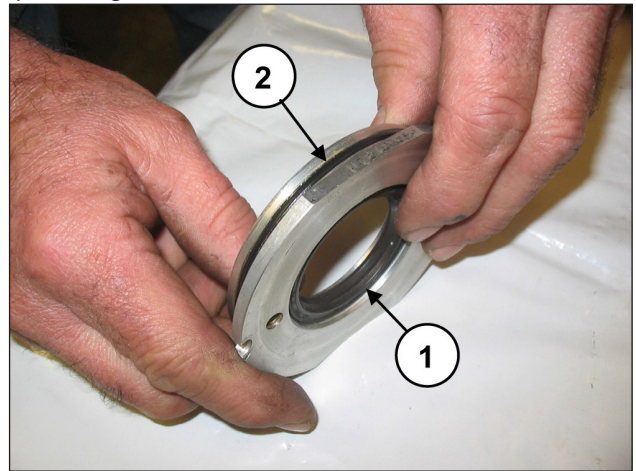

Fig. 160
Replace the oil seal (pos. ①, Fig. 160) and the outside O-ring (pos. ②, Fig. 160).